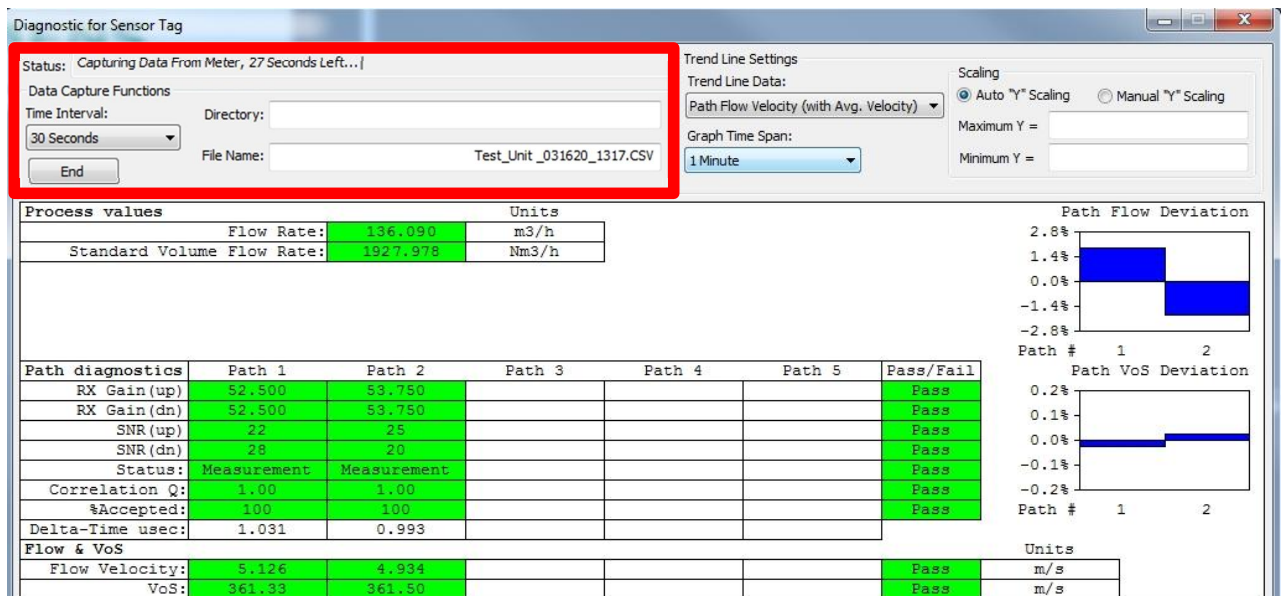

Figure 5-4 Data Capture Entry Field
3. The upper left section of the FS200 diagnostics screen provides the [Data Capture] controls where you can designate a location for the file and the time period for data collection (see Figure 5-4 below).